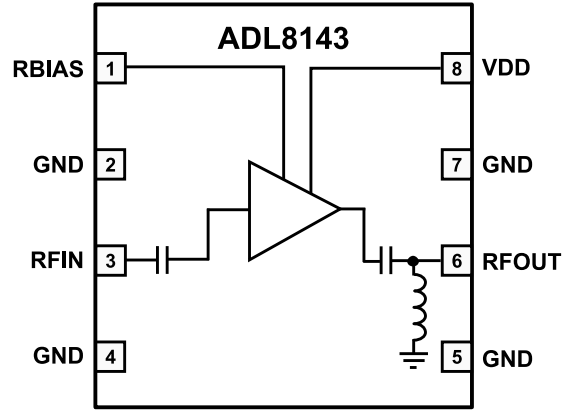

Figure 1. Functional Block Diagram
- ▶ Noise figure: 1 dB from 8 GHz to 10 GHz